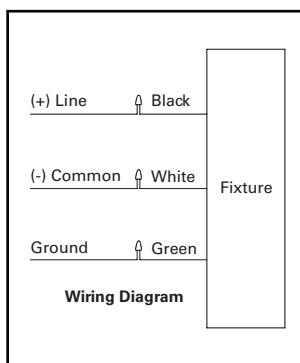

Figure 3.
2. Loosen but do not remove (2) center bolts and (1) set screw.
5. Refer to wiring diagrams for power connection. See Figure 3.
2. Remove (2) cover plate screws and cover plate with #2 Philips screwdriver.
5. Make wiring connections per wiring diagram and place connections down into pole or mounting bracket. See Figure 3.
6. Loosen (3) set screws and slide the slipfitter onto pole or mounting bracket.
7. Position luminaire into the desired direction; and tighten (3) set screws to 10 ft-lbs.